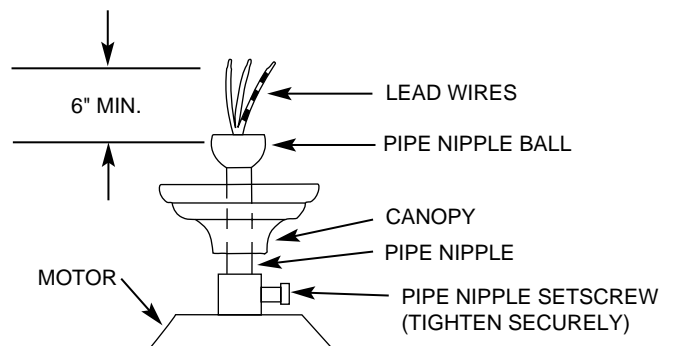

FIGURE 6B
A. Insert pipe nipple through canopy and feed wires from top of motor through pipe nipple. Screw pipe nipple into fan until tight (at least 4½ turns). The setscrew locking the pipe nipple to motor must be tightened very securely. See Figure 6B. Failure to tighten screw could result in fan falling.